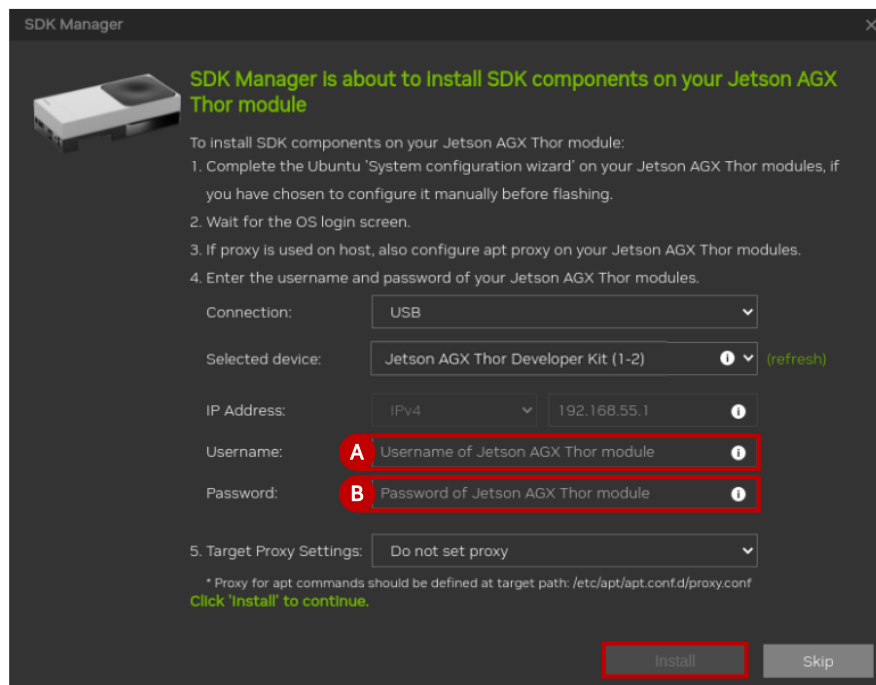

Figure 6.22. Post-flash Installation Dialog
14. Allow the SDK Manager to detect the device and begin the initial setup process. When the AGX Thor reaches the operating system login screen, enter the created **username** at (letter A) and **password** (letter B) as shown in Figure 6.22. Click **Install** to start installing the SDK component.